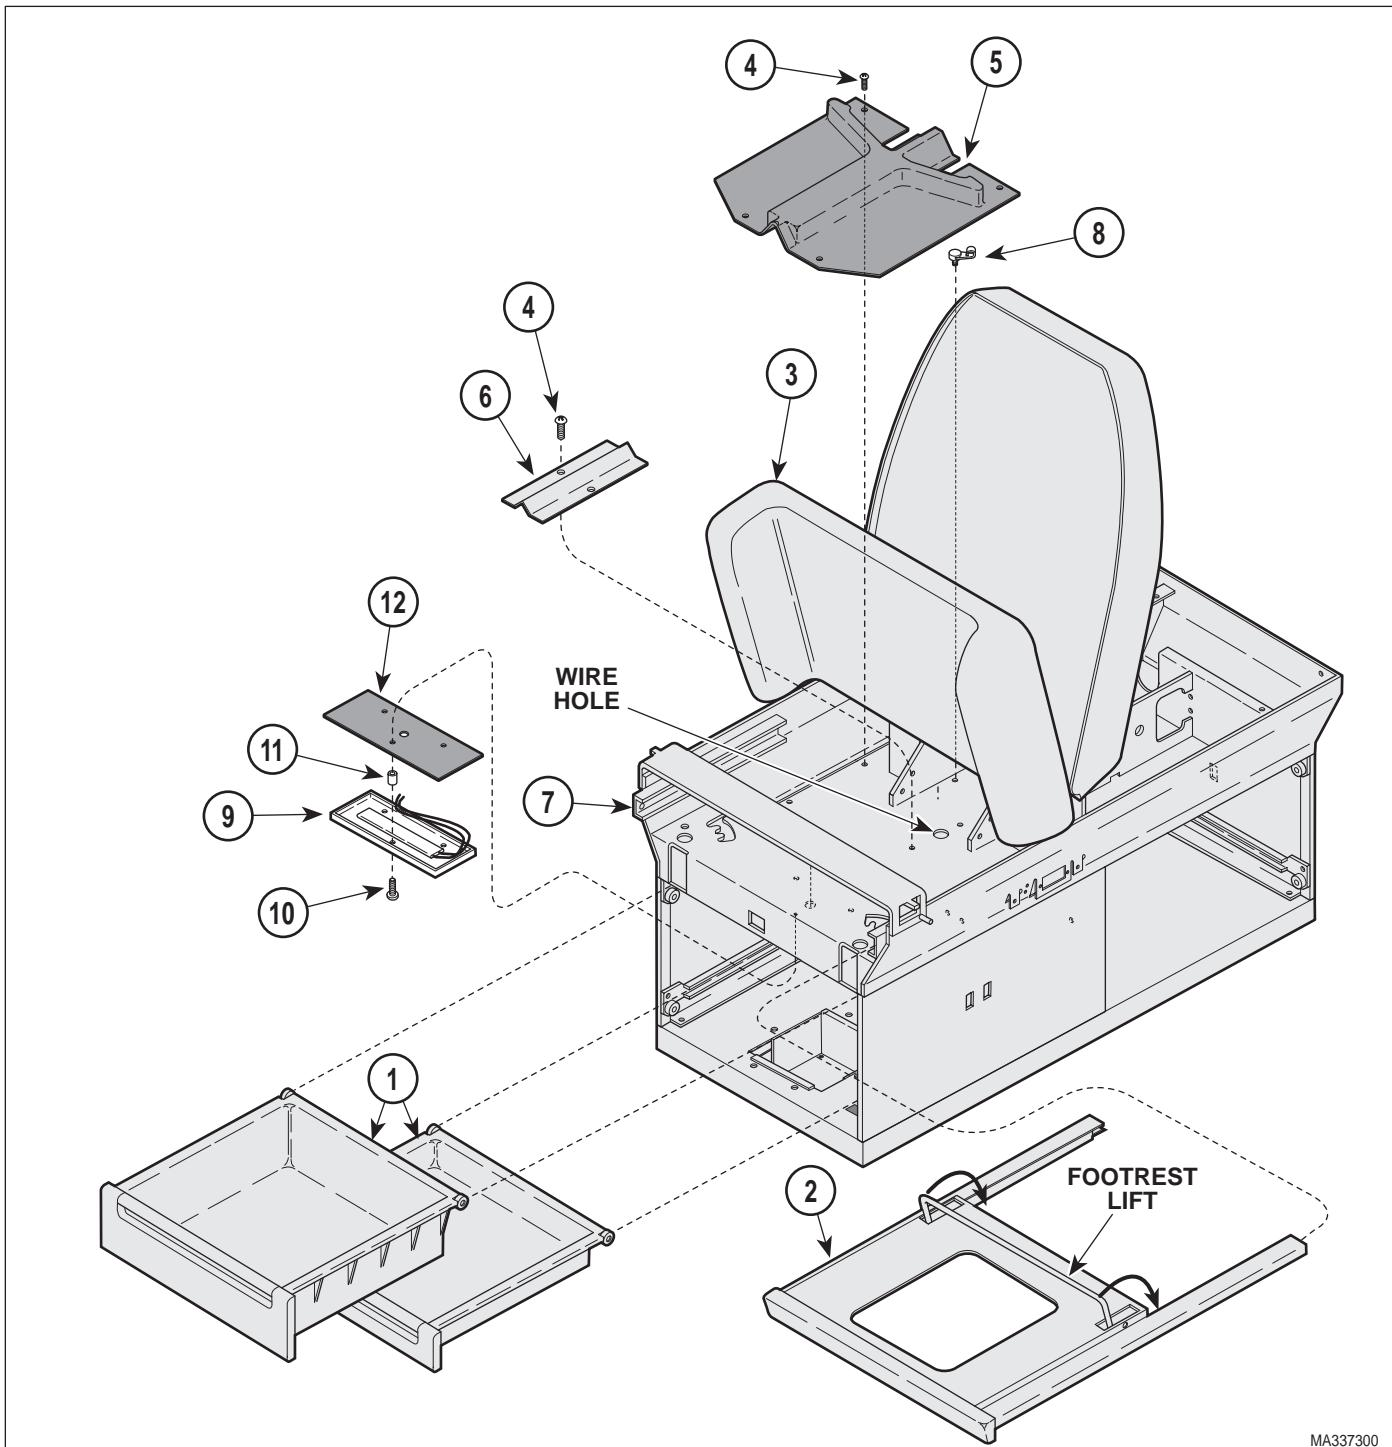

Figure 4-21. Heater Plate Removal / Installation
- (1) Unplug table power cord from wall outlet.
- (2) Remove two drawers (1, Figure 4-21) from foot end of table.
- (3) Remove heater ON / OFF switch (Refer to para 4.13).
- (4) Pull foot rest section (2) out as far as it will go.
- (5) Raise seat section (3) up.